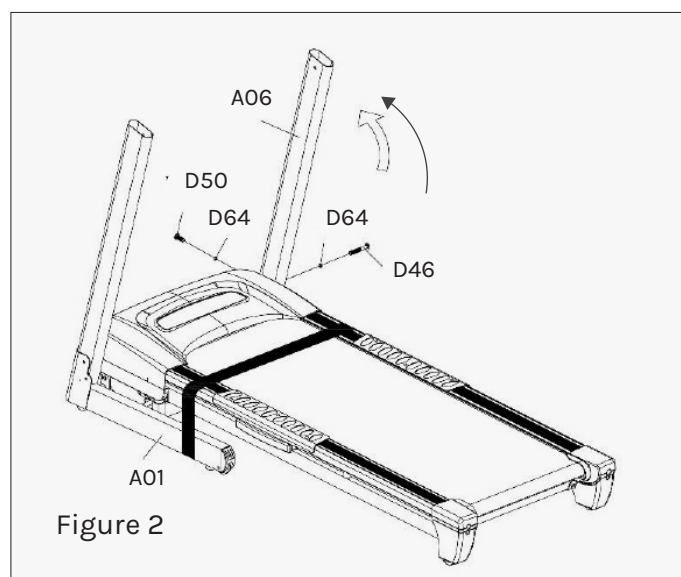

Figure 2
3. Repeat the step above to assemble the Right Upright Tube (No. A06) to the Base Frame (No. A01). See Figure 2.